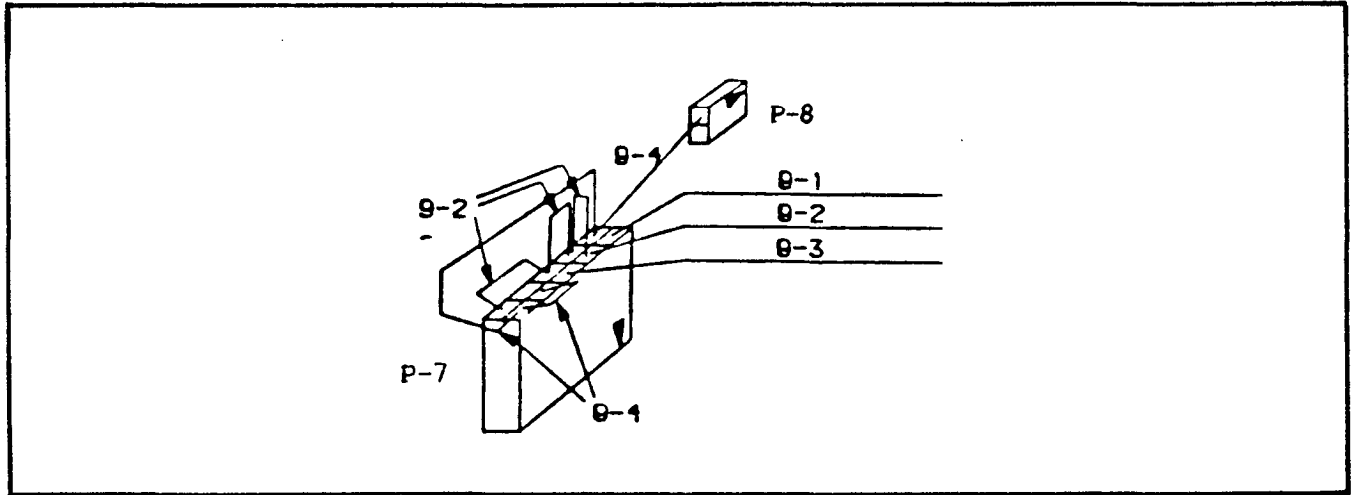
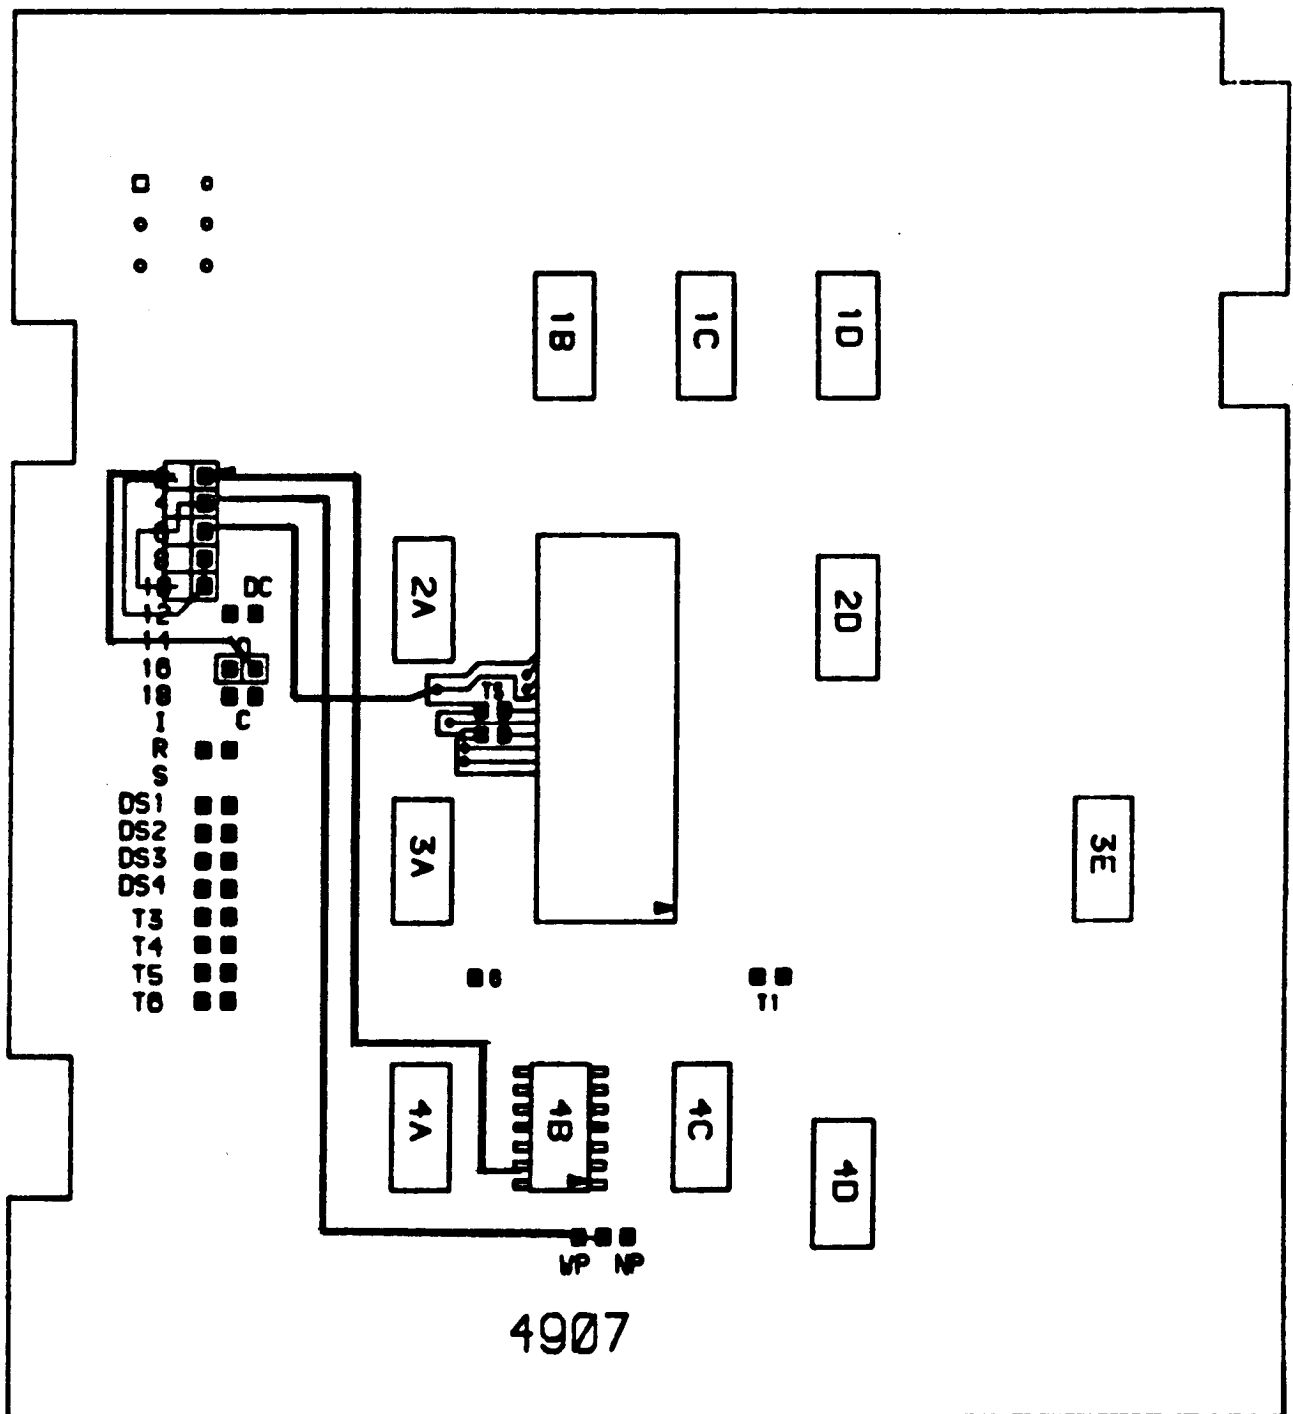

Figure 1a.
Figure 5.
The wire harness shown in Figure 1a is currently used for both versions of the non-LSI boards. Following is the procedure for connection of this wire harness.
- 1) Place P-7 of this wire harness (shown in Figure 1a) on the board so connector pins 1 through 5 go over the square pins which connect to edge connector pins 2 through 10.
Refer to Figure 5 for locations of the wire to be attached in the following procedures.
- 1) Place P-7 of the wire harness (shown in Figure 1a) on the board so connector pins 1 through 5 go over the square pins as shown in Figure 5.
- 5) Solder the 9-3 wire to the through hole located between ICs 2A/3A and the LSI IC as shown in Figure 5.